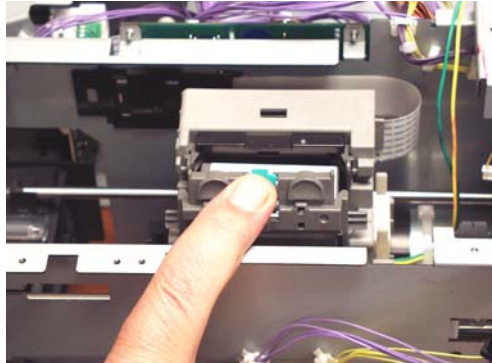

Figure 5-33 Press Ink Cartridge Lock
2. Remove ink cartridge (Figures 5-33 and 5-34).